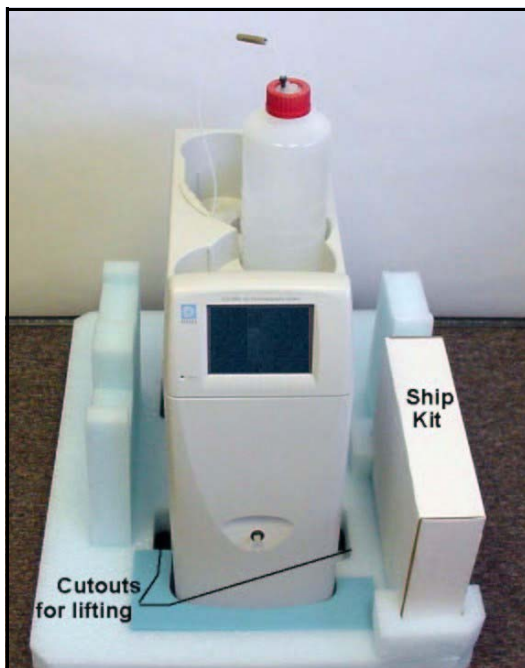

Figure B-3. ICS-1500 with Ship Kit
3. Remove the next layer of foam and remove the Ship Kit box (see Figure B-3).
4. The bottom foam layer has two cutouts on either side of the ICS-1500 module; use these as handholds when lifting the module (see Figure B-3).